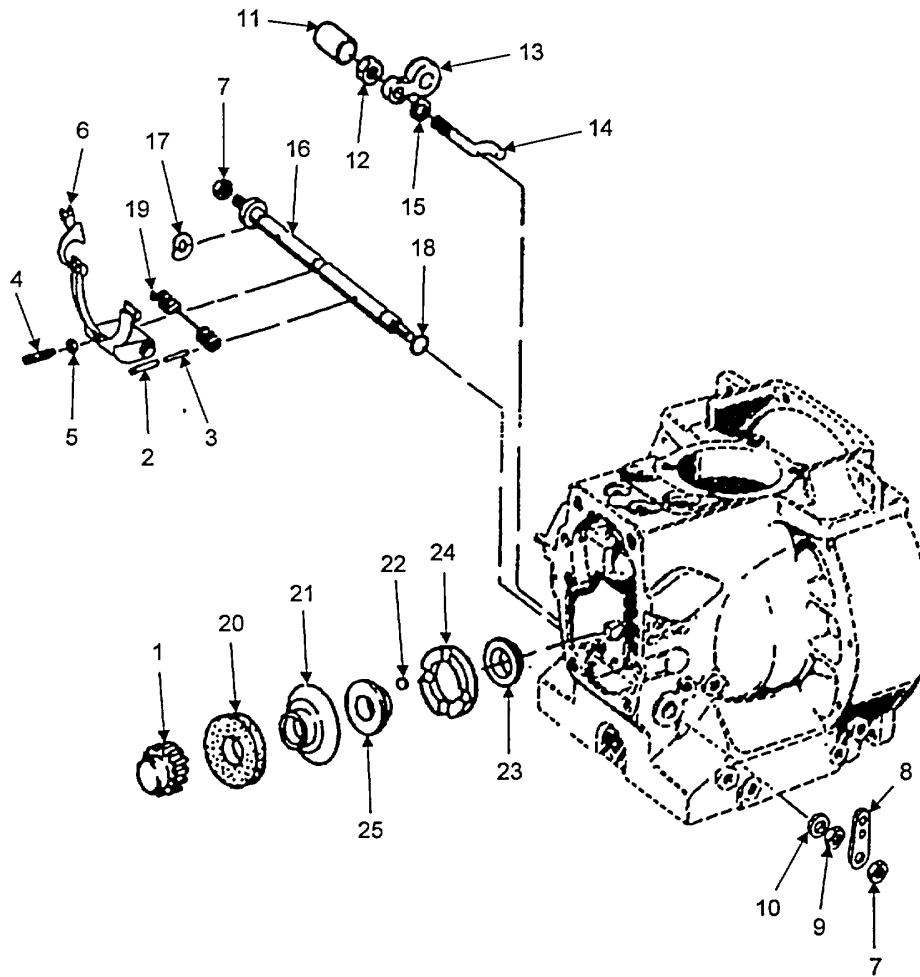

FIGURE 5-49. GOVERNOR
- a. Remove gearwheel (Figure 5-49, Item 1) from crankshaft.
- b. Remove pins (2 and 3) from shaft (16)
- c. Remove threaded pin (4) and hex nut (5) from governor lever (6).
- d. Remove two hex nuts (7) and lever (8).
- e. Remove hex nut (9) and friction disc (10)
- f. Press out shaft (16) from crankcase.
- g. Remove capsule (11), hex nut (12), plate (13) and eccentric pin (14). Discard preformed packing (15).
- h. Remove spring washer (17) and discard two preformed packing (18).
- i. Remove governor lever (6) and governor spring (19) from crankcase.
- j. Pull sliding disc (20) and ball shell (21) from crankshaft.
- a. If any of the four balls (Figure 5-49, Item 22) were removed during disassembly, apply grease to four balls (22) and install balls in ball hub (24)